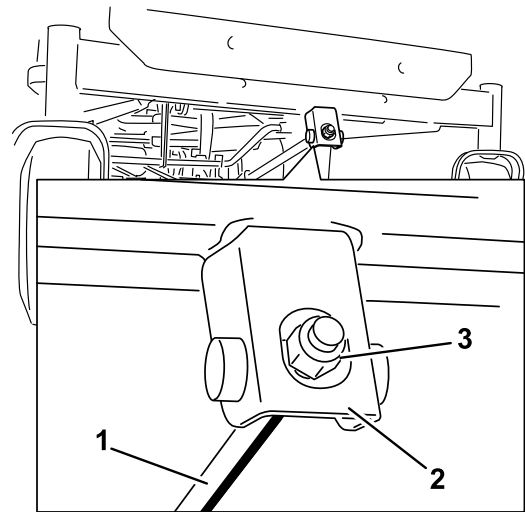

**Figure 58**
4. Carefully rotate the blades so they are facing front to rear (Figure 58).
5. Measure from the tip of the front blade to the flat surface and the tip of the rear blade to the flat surface (Figure 58). If the front blade tip is not 1/16 to 5/16 inch (1.6 to 7.9 mm) lower than the rear blade tip, adjust the front locknut.
8. After adjustment, check the front-to-rear slope again. Continue adjusting the nut until the front blade tip is 1/16 to 5/16 inch (1.6 to 7.9 mm) lower than the rear blade tip (Figure 58).